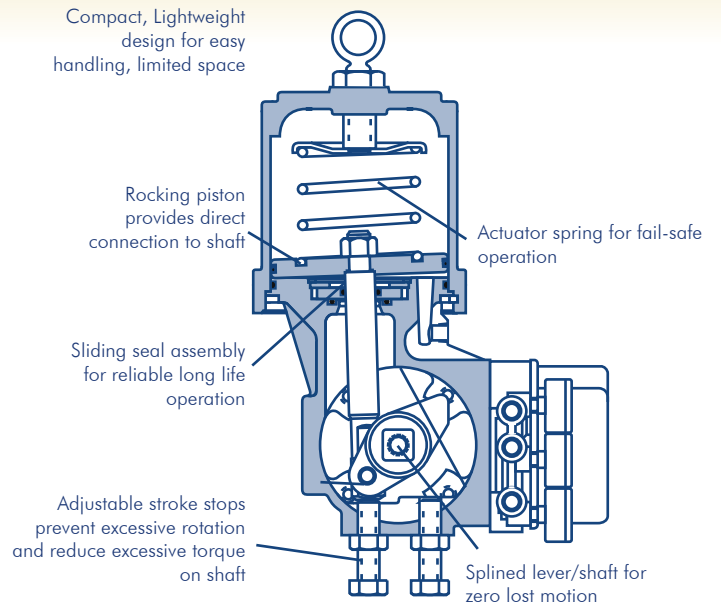

Figure 9
8. Actuator position: style and orientation (Figure9)